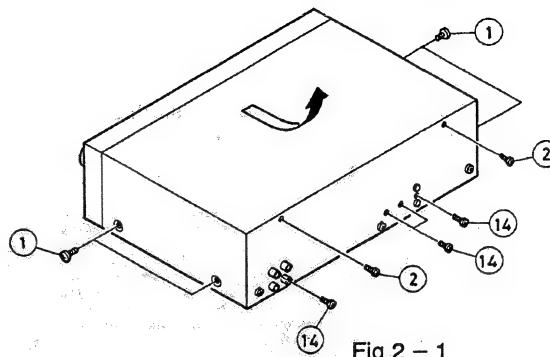

Fig 2 - 1
1. Remove four screws ① retaining the top cover from both side.
2. Remove two screws ② retaining the top cover from the back side.
3. To remove the top cover ,slide in direction of allow and lift away(refer to Fig 2 - 1)